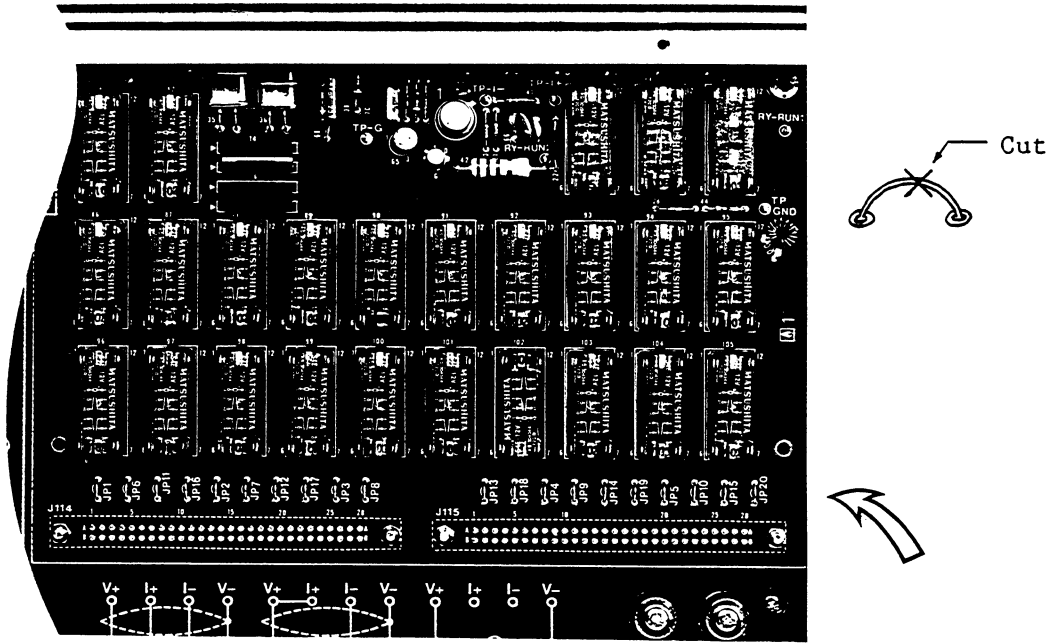
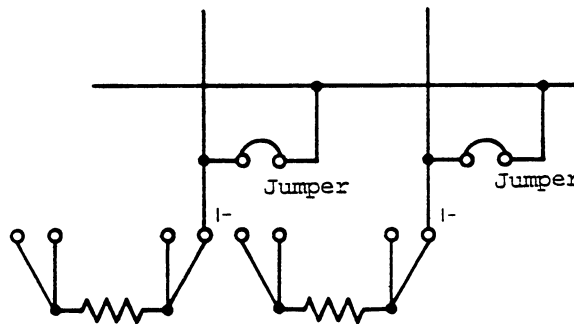

Fig. 2-29 Location of jumper wires
Fig. 2-30 Schematic diagram for sensor connection
- ② Cut the tinned jumper wires of the pertinent channel. Jumper wire location is indicated by an arrow in Figure 2-29.
- ③ Remount the top cover on the TR2741.
- ④ The schematic diagram for sensor connection is shown in Figure 2-30.